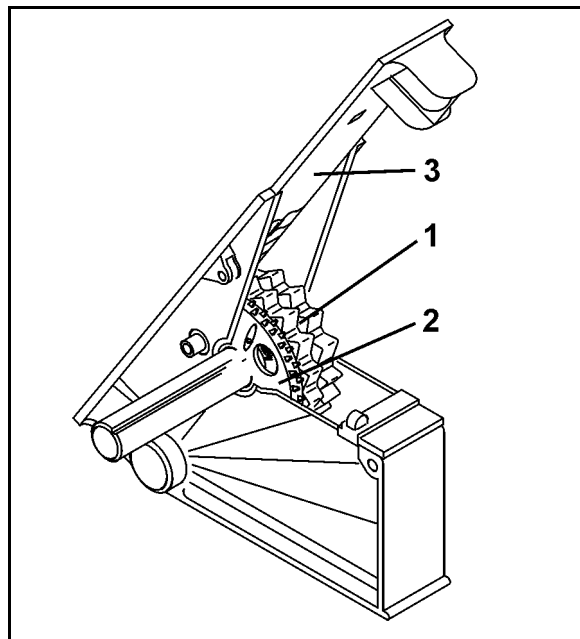

Fig. 12
- o A normal seed wheel (Fig. 12/1) and
- o A fine seed wheel (Fig. 12/2).
The shutter slides (Fig. 12/3) allow the setting in 3 positions and require adjustment according to the kind of seed.